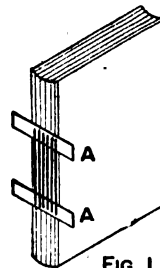
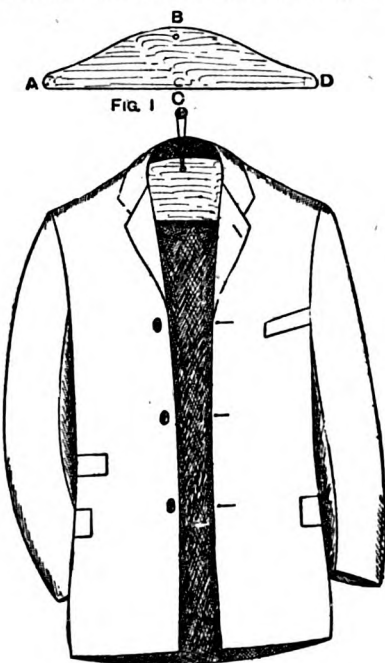

FIG. 1
FIG. 2
**Binding Books Without Special Tools.**—For binding books without special tools all the materials that need be provided are a little melted glue, some paste, a needle and stout thread, some white and coloured papers, and a few other trifling items. Arrange the sheets to be bound in order, beat them even at the back and head, and subject them to a heavy pressure between two flat surfaces by piling weights on them. Now take two pieces of tape 1 in. wide, and each 2 in. longer than the width of the back of the book. Stiffen the tape by drawing it through paste, and then let it dry before use. Fold the pieces of stiff tape, and place the sheets within them in such a position that the two tapes A (Fig. 1) will divide the back into three equal lengths. While the sheets are pressed down firmly with the left hand, with a lead pencil draw a line down each side of the tapes, and two other lines, each one dividing that part of the back outside the tapes into equal portions. These lines mark the place for the entrance of the needle. The sheets are to be sewn on the tapes as in Fig. 1. When the book is sewn, the tape fastenings each sheet are seen outside the tapes. The back must now receive a coating of glue, not too thin, after which it may be left to dry. Then the glue being hard, the book may be cut on the edges with a straightedge and a sharp knife. The back must next be rounded by tapping with a hammer, which may be
**Design for Bracket to Verandah.**—The accompanying illustrations show the end view (Fig. 1) and front views (Fig. 2) of a verandah supported on brackets; such a verandah is suitable for a small villa or cottage executed partly in half-timbered work and having a ground storey bay window projecting 1 ft. 9 in. from the main wall. The rafters, out of 3-in. by 2-in., are fixed at the top end to a ridge-piece nailed to the wall and at the bottom, birds-mouthed over plate A housed into the ends of the bracket heads, and rests upon and forms the head of the bay window. The housing may be simply a plain notch half the depth of the plate and nailed, or it may be rendered additionally secure by dovetail notchings, as shown in Fig. 3, where the head of the bracket is shown in full line and the plate and end rafter in dotted lines. The end rafters are kept flush with the outside of the bracket, and, if desired, the spandrel may be filled in with a 1-in. perforated panel as shown. This panel should be placed lying and grooved 1 in. into the rafter and head; the design of the perforation is based on the equilateral triangle, as shown by the dotted lines, and is easily described by bisecting the angles of the spandrel to find the centre lines of the arches. The brackets are mortised and tenoned together as shown by dotted lines, the tenons being painted and the foot of the rib screwed to the wall piece; the latter is fixed to plugs in the wall, 4 1/2 in. being sufficient to insert the head into the wall, building in with cement. The gutter is worked in the solid out of 3 1/2 in. by 3 in. pitch-pine and screwed to the plate, the end being returned
in the solid as shown in dotted lines (Fig. 2). The covering of plain tiles may be fixed to boarding or battens as shown; in the latter case a verge piece B is cut to fit under the tiles and cover the ends of the battens, finishing behind the gutter. A shaped apron lining (C, Fig. 2) is shown grooved into the under side of the plate and housed into the brackets, but, if desired, may be nailed direct on to the face of the plate, which would then be kept the thickness of the lining farther back. Figs. 4, 5, and 6 are respectively enlarged sections of bracket head, wall piece, and bracket rib. Figs. 1, 2, and 3 are reproduced to a scale of 1 in. to the foot, and Figs. 4, 5, and 6 are one-ninth full size.
effective, and inexpensive one may be made as shown in Fig. 1, using wood from  $\frac{1}{2}$  in. to 1 in. thick. From A to D is about 18 in., C to B is  $\frac{1}{2}$  in., and the top edge on which the shoulders of the coat are to rest should be rounded to avoid "ridging." A hole is drilled about 1 in. below B as shown, and through this is passed a string for attachment. Fig. 2 illustrates the suspender in use; it greatly helps to retain the form introduced by the tailor.